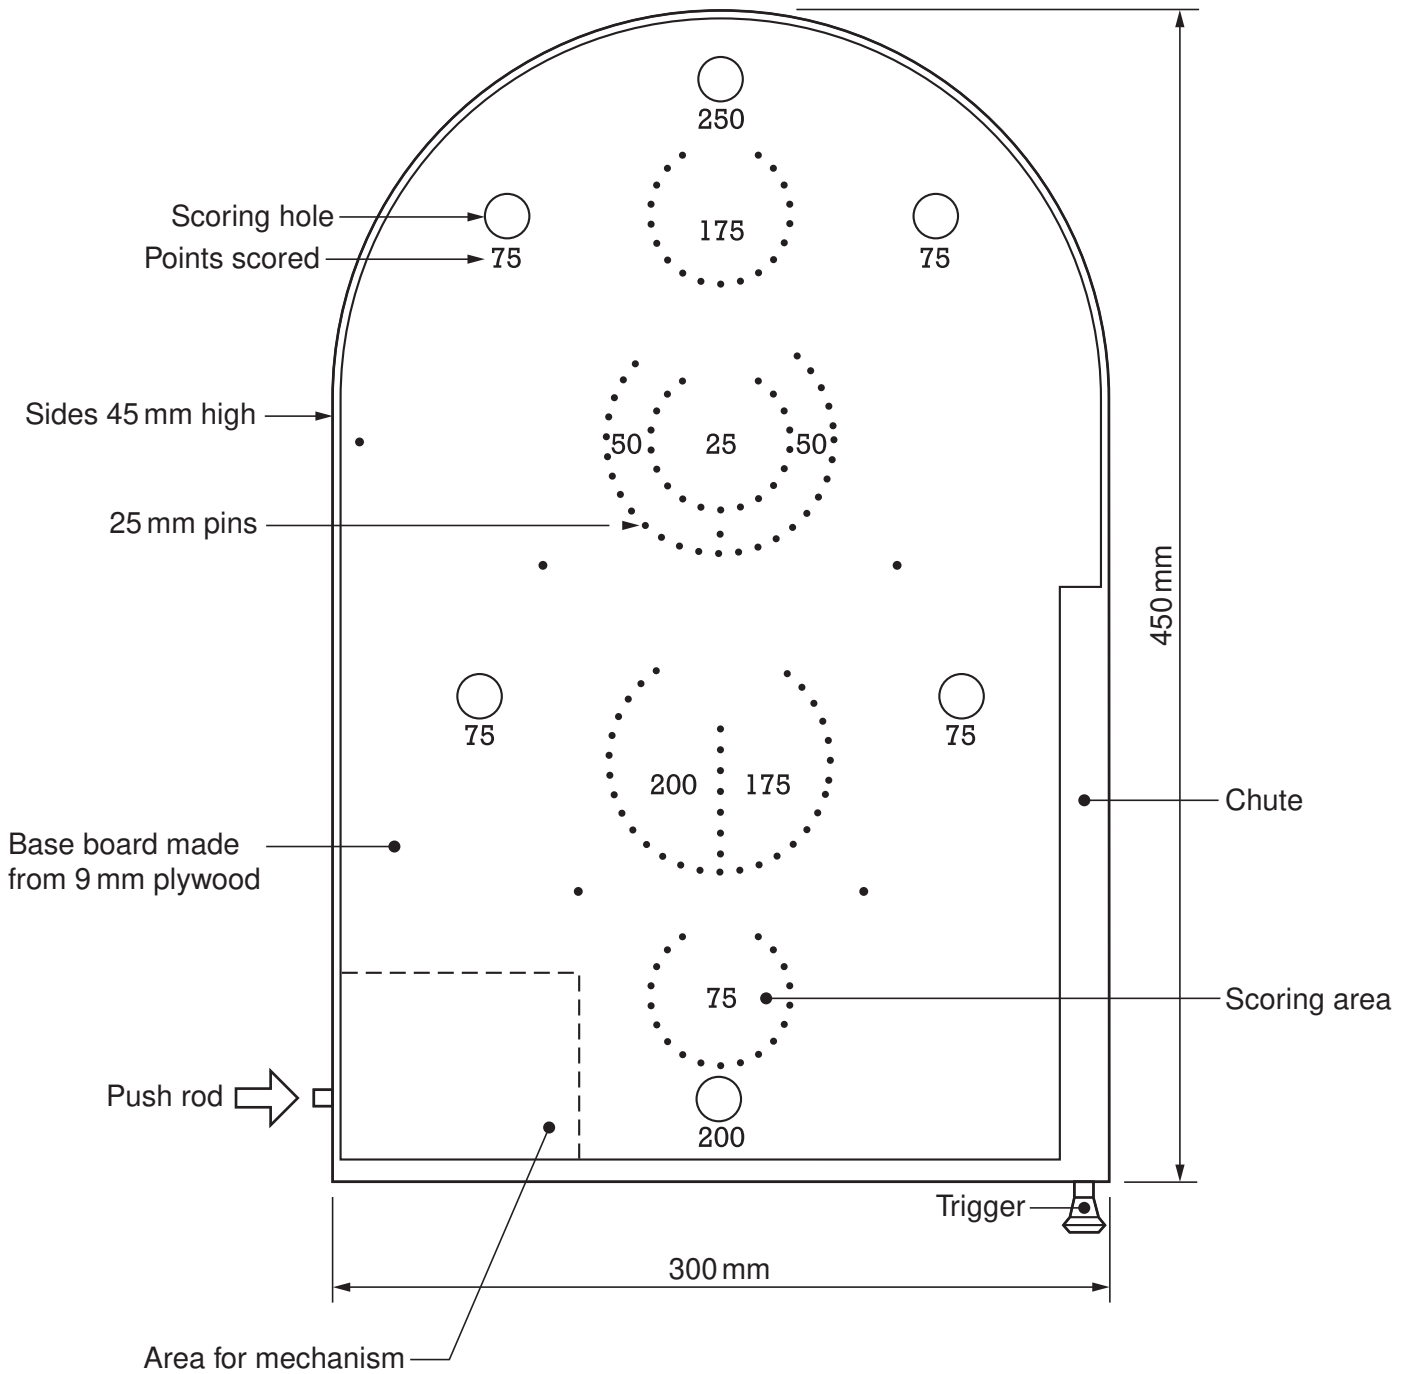

Fig. 10
- 9 Figs 10 and 11 show an incomplete idea for a table top game. 12 mm diameter balls are propelled up the chute on the right-hand side of the board. As each ball rolls down the board there are various scoring holes and areas that it can go in. Each player has six balls with which to score as many points as possible.